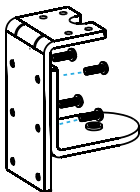

Figure 10
1. Remove the **Screws** (x4) from the two halves of the **Desk Clamp** using a **Phillips Head Screwdriver**. (Figure 10)